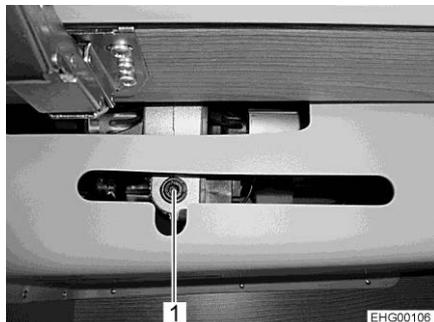

Fig. 80 Access to drive
- If the holder (Fig. 80,1) for the drive is installed in the wall-mounted cupboard: open the wall-mounted cupboard.
- Insert the crank provided or an Allen wrench into the accommodation on the motor (Fig. 80,1).